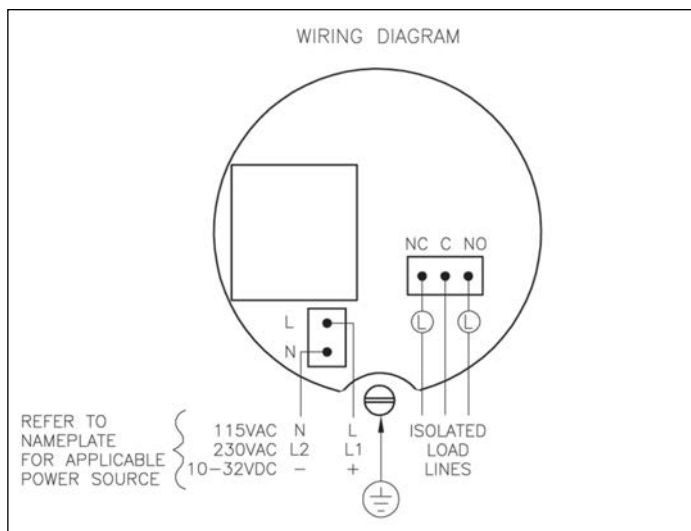

Figure 5
- 7) **Power Input** - Verify the intended voltage supply is compatible with the voltage configuration indicated on the external nameplate. Remove the plug-in terminal blocks and connect the power wiring as shown in Figure 5. The customer supplied power cable must have a minimum conductor size of 1mm² (18 awg). Additionally, the customer is responsible for installing a main power disconnect as mentioned above.
- 8) **Relay Output Contacts** - The **DustAlarm** is shipped in a FAIL-SAFE mode (See Figure 5b). That is, the relays are energized when power is applied and de-energized in the alarm mode. The SPDT (form C) relay contact is electrically isolated from all other parts of the unit. The contact is rated at 5A, 250VAC, 30VDC. Remove the plug-in terminal block and connect relay contact wiring as shown in Figure 5.
- 10) **DC Power Option** – The **DustAlarm** Broken Bag Detector may be supplied to operate with a DC input voltage between 10 and 32 volts (nominal 12V and 24V systems). If you have purchased a unit with this supply selection, the following conditions must be observed: The positive power input must be connected to the position labeled “L” on the unit’s power terminal block. Connect ground (-) to the “N” position on the power terminal block. Refer to Figure 5 for the proper wiring procedure. Input voltages above 32 VDC should never be applied at the power terminal block. To protect the unit, voltages much higher than 32 VDC will blow the fuse. Since the unit needs to draw sufficient power to operate, the lower the input voltage, the higher the current requirement. Operating the unit with an input less than 10 VDC could draw sufficient current to blow the fuse. To prevent blowing the fuse, the DC powered unit is equipped with an under-voltage lockout feature that will shut the unit down if the input voltage drops much below 10 VDC. Refer to the table below to determine the average power and current requirement of your **DustAlarm** unit, and the correct fuse. Consult the factory before attempting to replace the fuse. **WARNING:** Never apply AC power to any unit equipped with the DC power supply selection.